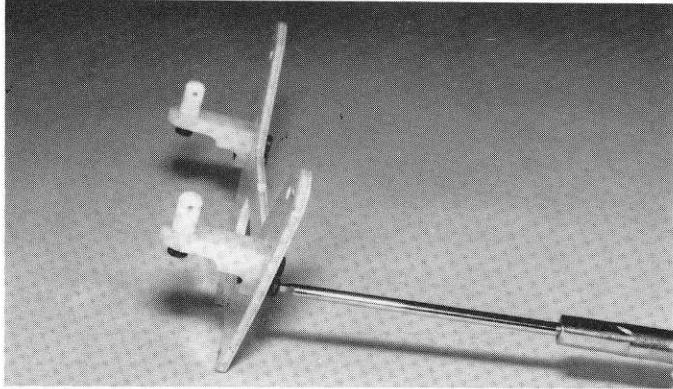

Fig. 103
□ **Fig. 103 & 104** Install the body mounts from Bag 7-5 to the #7353 rear shock strut from Bag 7-4 in the location shown, using the center of the three holes for the 4/40 x 5/16" SHCS mounting screw. Although the photo shows two mounting screws, your mounts only require one screw. The mount is held in alignment by a short knob that goes in the bottom hole. Now attach the shock strut to the rear bulkhead with the four 4/40 x 1/2" SHCS screws, as shown.